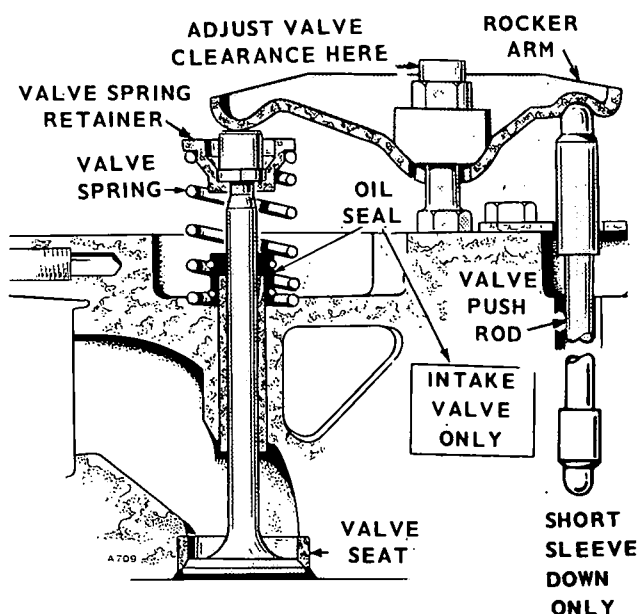

FIGURE 20. VALVE CLEARANCE ADJUSTMENTS
3. Check cylinder head-bolt torque prior to valve clearance adjustment. Torque should be 28 to 30 foot-pounds. Valve clearance is adjusted with the locknut which secures rocker arm to the cylinder head (see Figure 20). Loosen the locknut to increase clearance and tighten to reduce clearance.